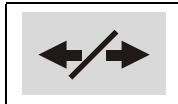

**Figure 3-6. LCD Display Symbols**
In the LCD Display Symbols (refer to Figure 3-6., item 2), the Function Display or Function Disabled Indicators will vary as shown following:
**Battery Charger (AC) Plugged In**